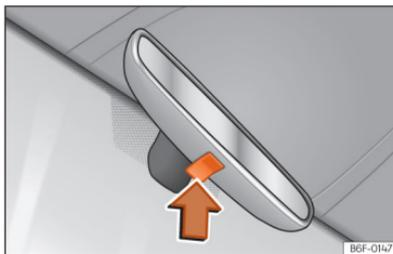

Fig. 78 Manual anti-dazzle function for rear vision mirror
- To darken the rear view mirror, press the mirror button updates »» Fig. 78 (arrow).